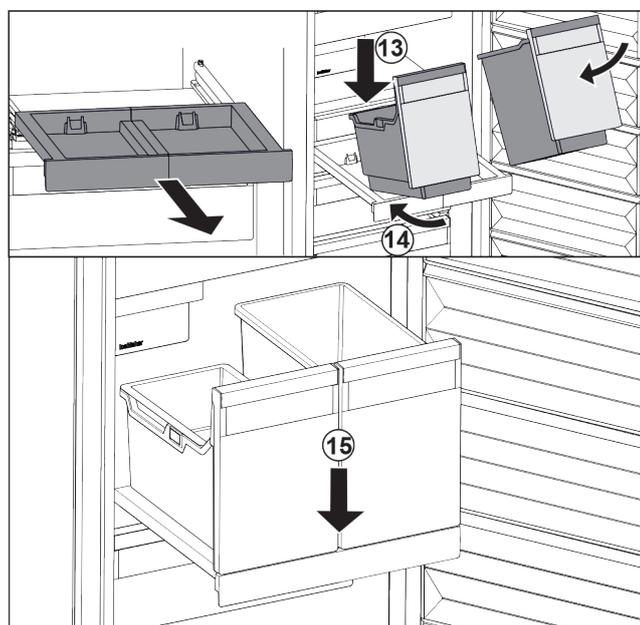

Fig. 31
- ▶ Place the container at an angle on the pull-out board. Fig. 31 (13)
- ▶ Slide the container to the back at an angle. Fig. 31 (14)
- ▶ Place container in the front. Fig. 31 (15)